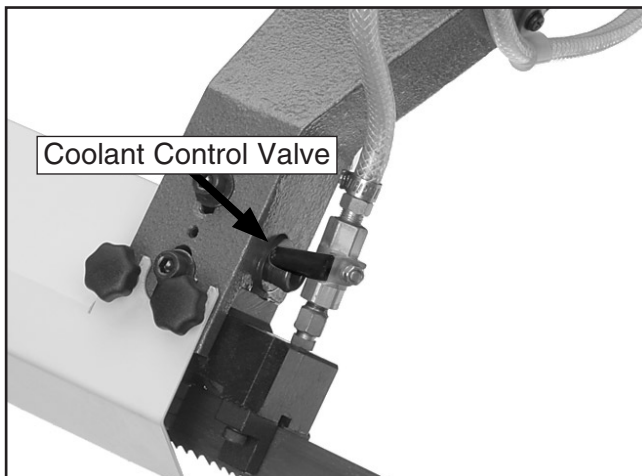

Figure 27. Coolant control valve.
- Adjust the valves on the coolant hoses to control the flow of coolant (see **Figure 27**). Make sure that the pressure is not so high that coolant spills on the floor and creates a slipping hazard.